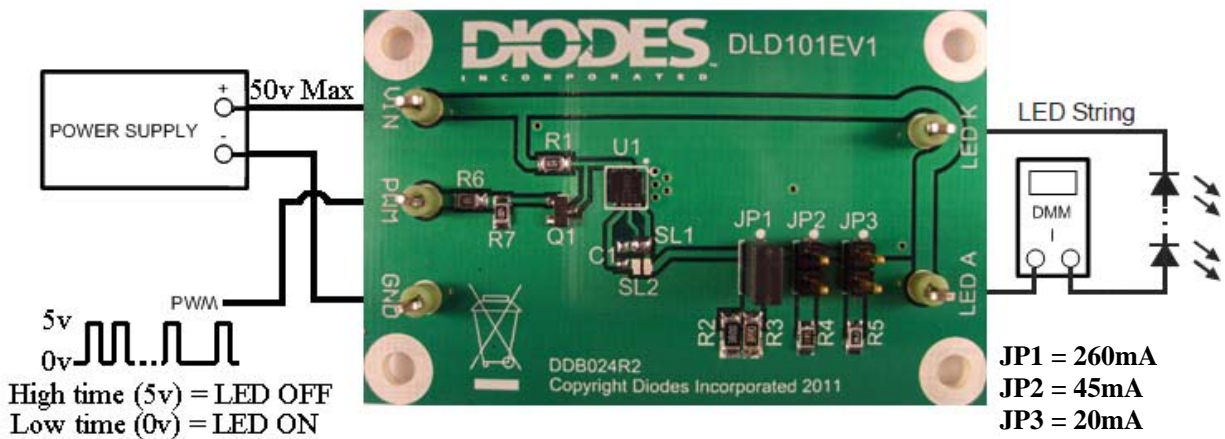

Figure 1. DLD101 evaluation board
3. Connect up the DLD101EV1 to the equipment as in Figure 1 above.